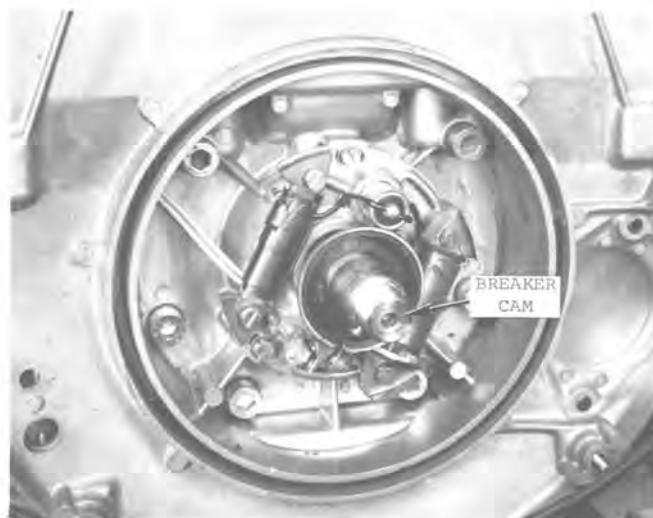

Fig. 38 — Breaker Cam Installed for Breaker Point Gap Setting
e. If desired, cam may be removed from flywheel and placed on crankshaft as shown in Fig. 38. Rotate the cam to open the breaker points and set their gap to .014"-.018" (0.35-0.45 mm) as shown in Fig. 39. After setting has been made, reinstall cam into flywheel.